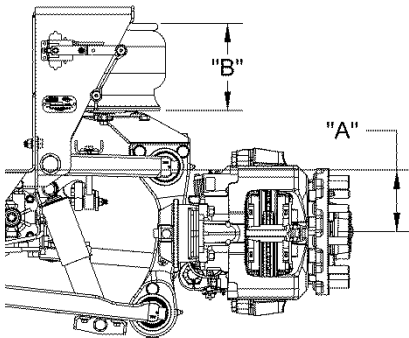

Figure 11 – Measurement at Ride Height
The ride height of the front suspension is the distance from the bottom of the chassis frame rail to the center of the wheel spindle. An alternate measurement may be taken as the height of the air spring (Figure 11).
- A: On vehicles with front suspension equipped with (2) height control valves, check and adjust the rear suspension first.
4. Measure either the wheel center to bottom of frame ("A") or air spring height ("B"). If the dimensions are not within $\pm 1/8"$ of measurements in **Figure 11**, adjust as follows.